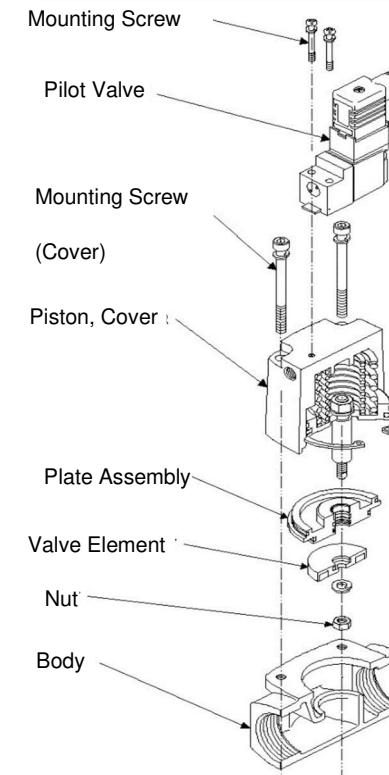

Figure 8
6.6.1 Replacing Plate Assembly and valve element (see Figure8)